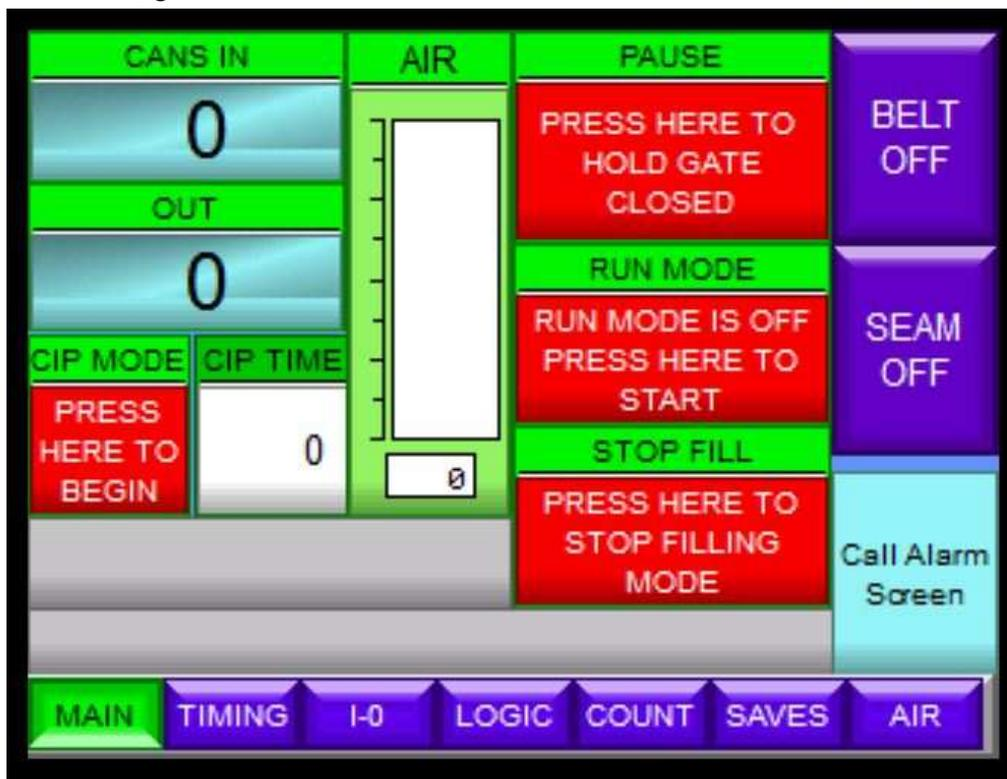

Figure 1. Main Screen
- a. The CraftCan System has the ability for CIP. The tubing is rated for up to 165 degrees Fahrenheit. To start CIP, place cans below the nozzles, and hit "CIP" on the "Main" screen (Figure 1). The nozzle cylinder will extend and the nozzles will open. The CIP time duration can be altered as needed. It is in seconds.
- iii. When you are ready to start canning, go to “Input & Outputs” on the HMI screen (Figure 1)
2. Cans are counted in (displayed on Main Screen, Figure 1)
- iii. **NOTE:** The air pressure must be above the minimum value specified to operate your machine. The air pressure monitor, on your front panel, Figure 1, displays this value. If your pressure drops below the minimum, your machine will stop filling and seaming. The integrity of your seams may be compromised if the pressure drops below the recommended. Your machine will wait for your compressor to catch up before canning may resume.